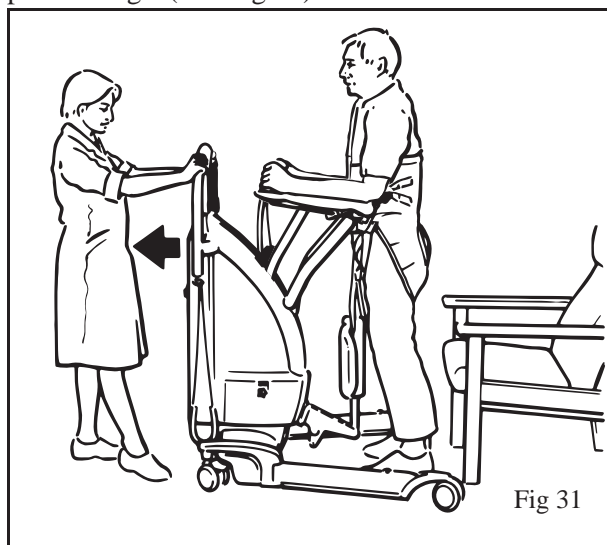

Fig 31
8. When the patient is standing confidently release the brakes and pull the lift slightly away from the patient until the Proactive Pad is clear of the patients legs. (See Fig 31)